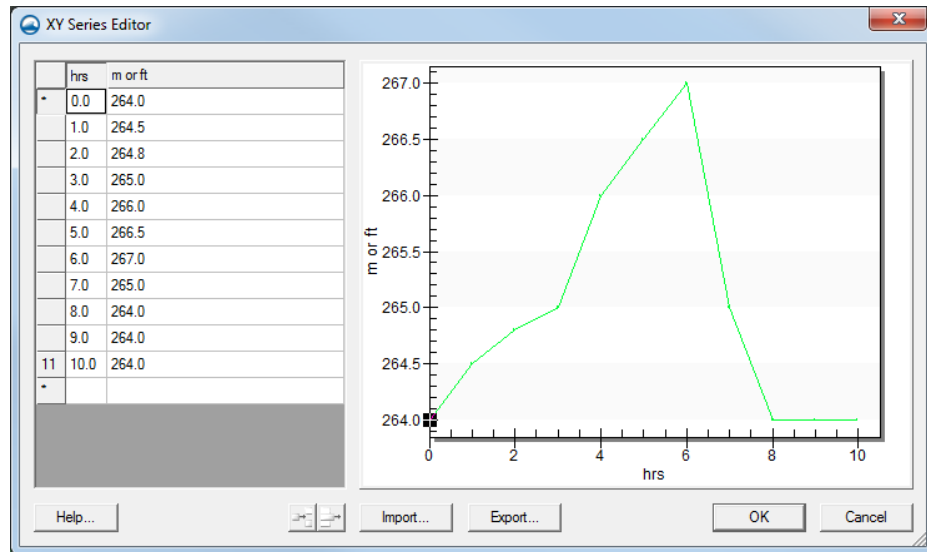

Figure 7 Variable WSE plot in the XY Series Editor dialog
11. Copy the values from the *Elevation (m)* column in the “VariableWSE.xls” file to the *m or ft* column in the *XY Series Editor* dialog. The plot should appear as in Figure 7.